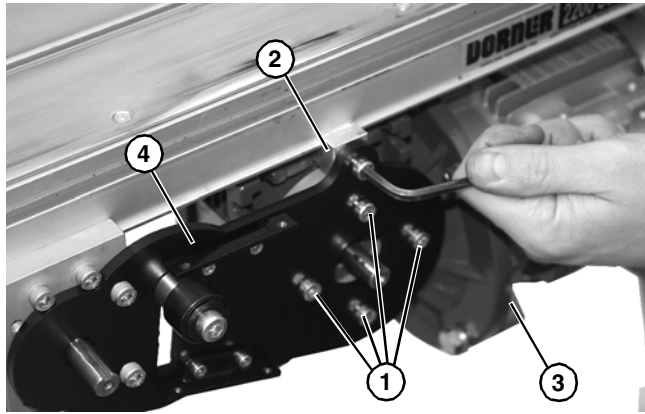

Figure 18
4. Remove four (4) gear reducer mounting screws (**Figure 18, item 1**) and retaining clip (**Figure 18, item 2**). Remove gearmotor (**Figure 18, item 3**) from mounting plate (**Figure 18, item 4**).